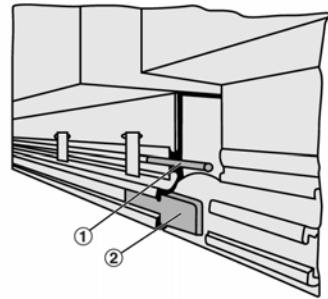

Fig. 3: Linking slot diffusers
3. ▶ The supplied connecting pins (Fig. 3/1) or alignment plates (Fig. 3/2) (only connecting pins for VSD15) help to align slot diffusers for a continuous linear arrangement.